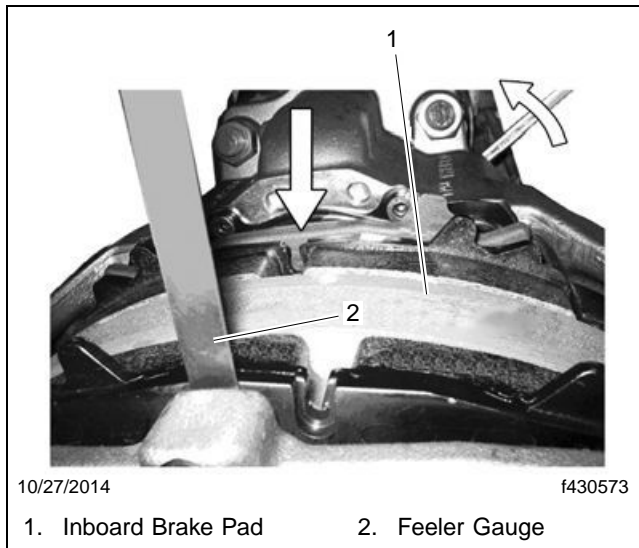

Fig. 11, Adjusting the Clearance
35. Using a 0.047 inch (1.2 mm) feeler gauge, adjust the clearance. See the arrow in **Fig. 11**. Insert the feeler gauge between the brake pad of the rim side and the brake caliper.